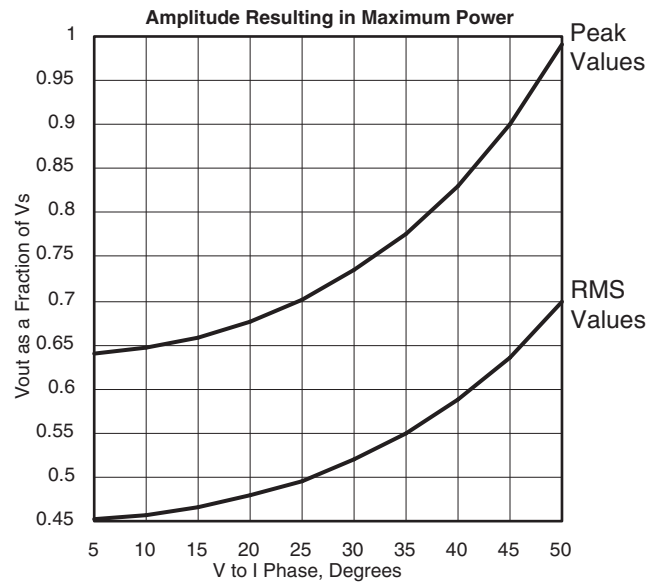

FIGURE 10. AMPLITUDE PRODUCING MAXIMUM POWER MOVES WITH PHASE ANGLE
- 1) The fraction of V_S corresponding to maximum power dissipation goes from 0.637 toward one. See Figure 10.
This method can be used analytically or on the bench as long as the test amplifier and heatsink are large enough to accommodate any errors in the first pass estimate of the circuit operation. Just as in the previous method, phase angle of the load must be known. Not only is it a term of the equations, but it is needed to determine the proper signal amplitude. Find the maximum power producing amplitude from Figure 10. If this is lower than the maximum amplitude your circuit will drive, use it. If not, use the circuit maximum.